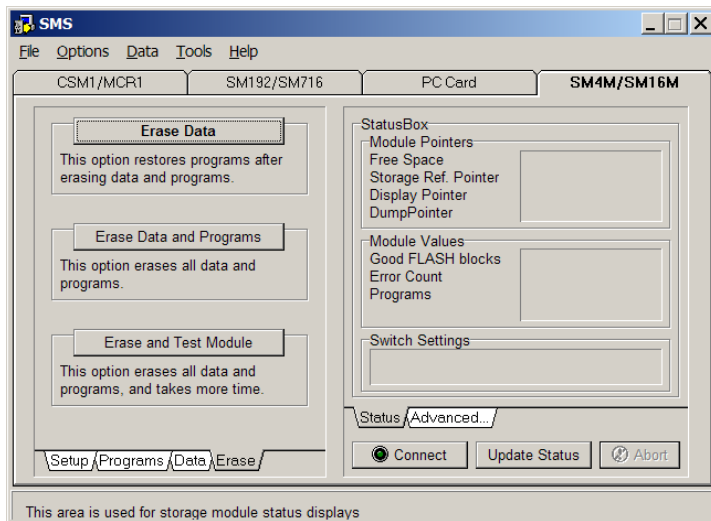

Figure 18: SMS “Erase” screen.
- 6.3.3.5 If the download just completed was an end of Water Year download you should erase the data from the memory module once the download and backup are complete. While connected to the module with the SMS program click the "Erase" tab at the lower left side of the screen. With the "Erase" screen open, click the "Erase Data" bar near the top left side of the screen. The erasing process may take one or two minutes and is tracked by a red scroll bar along the lower right edge of the window. See Figure 18.